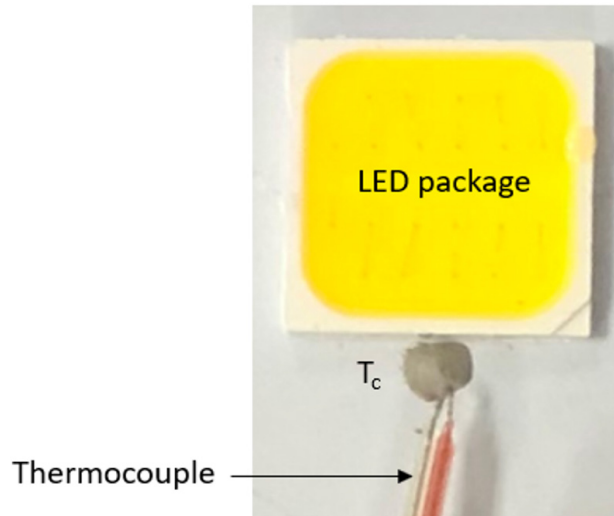

Figure 1: An example of a representative setup of thermocouple (TC) wire attachment via thermal adhesive at the T_c location.
Shown in Figure 1 is a thermocouple (TC) wire size of AWG 40. Smaller diameter TC wire is preferred as this has less thermal mass (more accurate temperature reading) and can be secured such that no portion of the bare TC wire is exposed to direct optical radiation from the LEDs. Dispense a small amount of thermal conductive epoxy such as a two-part Artic Silver® Thermal Adhesive and let it cure.